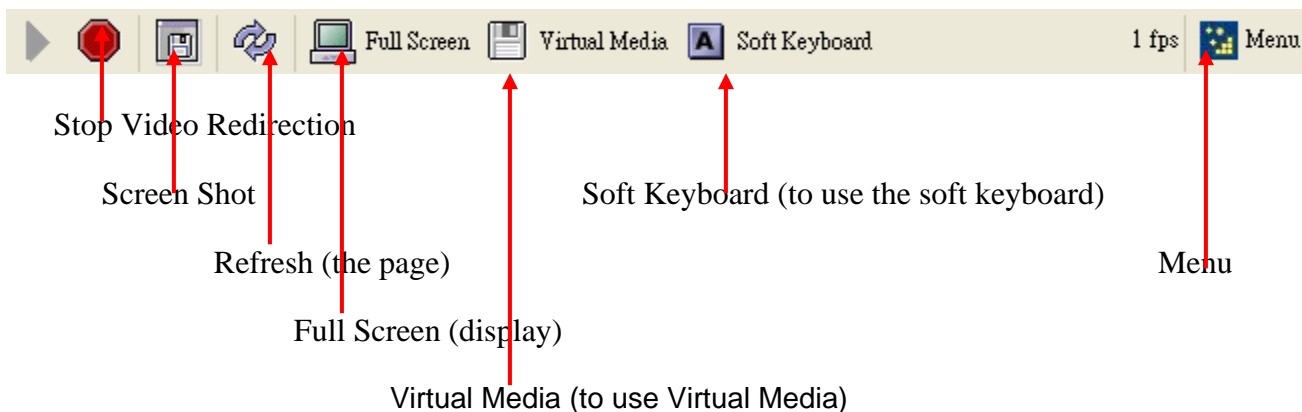

Figure B-2
The SIM(W) Console Toolbar provides seven tool buttons which will allow the user to perform the following actions as shown in Figure B-2.